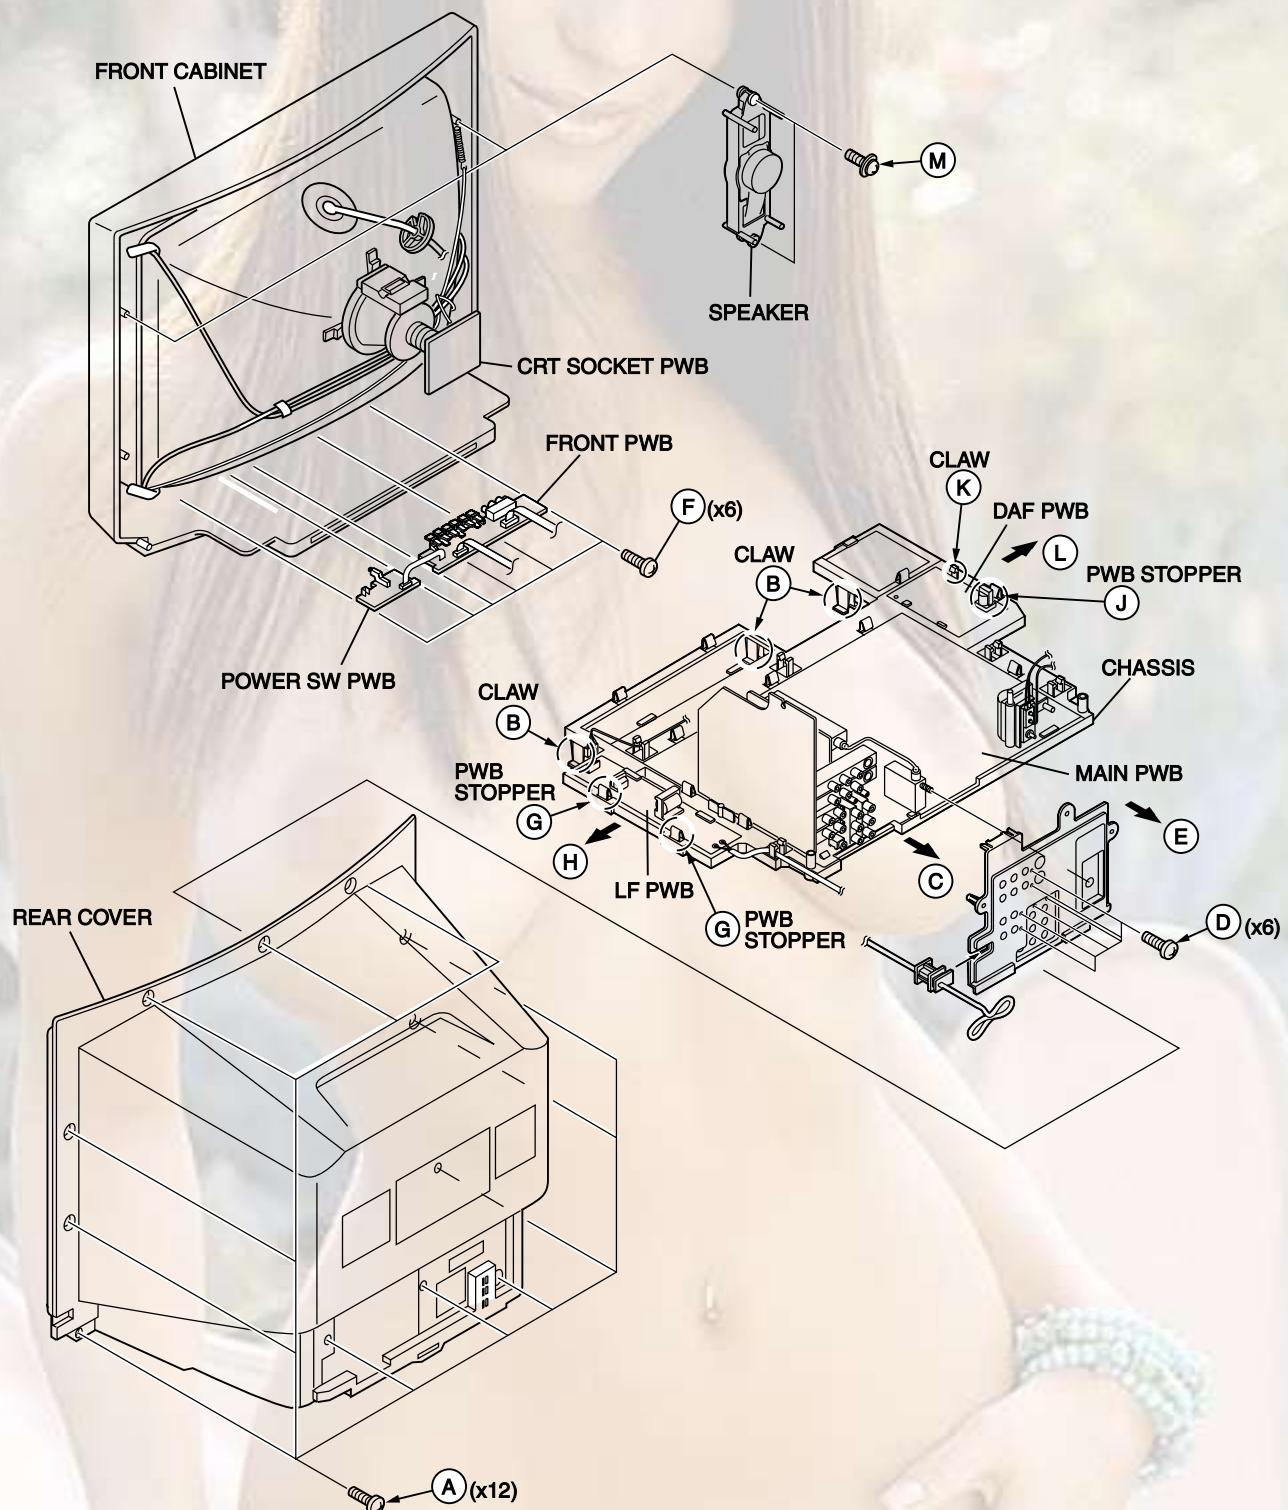

Fig.1
2. Remove the 12 screws marked **(A)** as shown in Fig.1.
1. Slightly raise the both sides of the chassis by hand and remove the 3 claws marked **(B)** under the chassis from the front cabinet as shown in Fig.1.
2. Withdraw the chassis backward along the rail in the arrow direction marked **(C)** as shown in Fig.1.
1. Remove the 6 screws marked **(D)** as shown in Fig.1.
2. When you pull out the TERMINAL BOARD in the direction of arrow marked **E** as shown in Fig.1, it can be removed.
1. Remove the 6 screws marked **(F)** as shown in Fig.1.
1. Lift the left side of the LF PWB while pressing the 2 PWB stoppers marked **(G)** in the arrow direction marked **(H)** as shown in Fig.1.
1. Lift the right side of the DAF PWB while pressing the PWB stopper marked **(J)** and claw marked **(K)** in the arrow direction marked **(L)** as shown in Fig.1.
1. Remove the 2 screws marked **(M)** as shown in Fig.1.
(1) Power off Switch off the power and disconnect the power cord from the outlet.
(2) Replace the memory IC Initial value must be entered into the new IC.
(3) Power on Connect the power cord to the outlet and switch on the power.
(4) System constant check and setting <ol style="list-style-type: none"> 1) Press SLEEP TIMER key and, while the indication of "SLEEP TIMER 0 MIN." is being displayed, press DISPLAY key and VIDEO STATUS key on the remote control unit simultaneously. 2) The SERVICE MENU screen of Fig.1 is displayed. 3) While the SERVICE MENU is displayed, again simultaneously press the DISPLAY and VIDEO STATUS keys to display the Fig.2 SYSTEM CONSTANT screen. 4) Refer to the SYSTEM CONSTANT table and check the setting items. Where these differ, select the setting item with the MENU UP/DOWN key and adjust the setting with the MENU LEFT/RIGHT keys. (The letters of the selected item are displayed in yellow.) 5) After adjusting, release the MENU LEFT/RIGHT key to store the setting value. 6) Press the EXIT key twice to return the normal screen. 	 <p>Fig.1</p>
(6) User settings Check the user setting items according to Table 2. Where these do not agree, refer to the OPERATING INSTRUCTIONS (USER'S GUIDE) and set the items as described.
(7) SERVICE MENU setting Verify what to set in the SERVICE MENU, and set whatever is necessary.(Fig.1) Refer to the SERVICE ADJUSTMENT for setting.